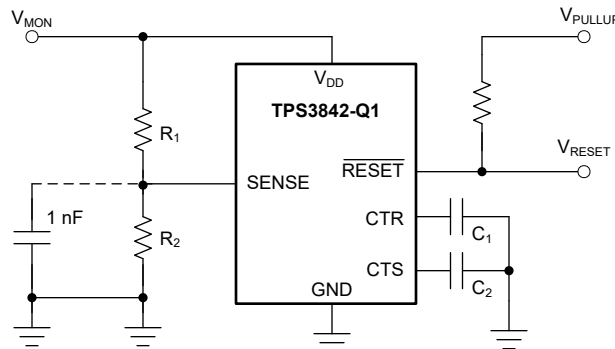

Figure 7-5. Using the TPS3842A011DRLRQ1 to Monitor a User-Defined Threshold Voltage
Figure 7-5 illustrates an example of how to adjust the voltage threshold with external resistor dividers. The resistors can be calculated depending on the desired voltage threshold and device part number. TI recommends using the 700mV threshold option when using an external resistor divider. The variant bypasses the internal resistor ladder for higher accuracy when using external resistors.
For example, consider a 12V rail, V_{MON} , being monitored for undervoltage (UV) using of the TPS3842A011DRLRQ1 variant, as shown in Figure 7-5. The monitored UV threshold, denoted as V_{MON-} , is the desired voltage where the device asserts the reset. For this example $V_{MON-} = 5.8V$. To assert an undervoltage reset the voltage at the sense pin, V_{SENSE} , needs to be equal to the input threshold negative, V_{ITN} . For this example variant $V_{SENSE} = V_{ITN} = 0.7V$. Using R_1 and R_2 the correlation between V_{MON-} and V_{SENSE} can be seen in Equation 1. Assuming $R_1 = 100k\Omega$, and R_2 can be calculated as $R_2 = 13.7k\Omega$.